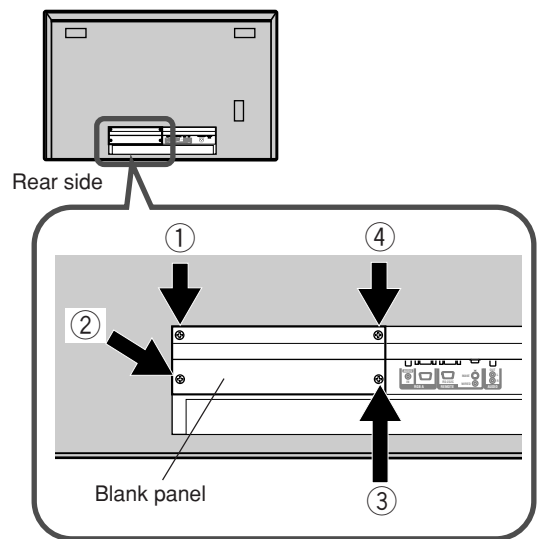

Fig. 1
- 2) Unscrew the 4 screws (① to ④) indicated in the illustration (Fig. 1) to detach the blank panel of the Plasma Display Monitor.